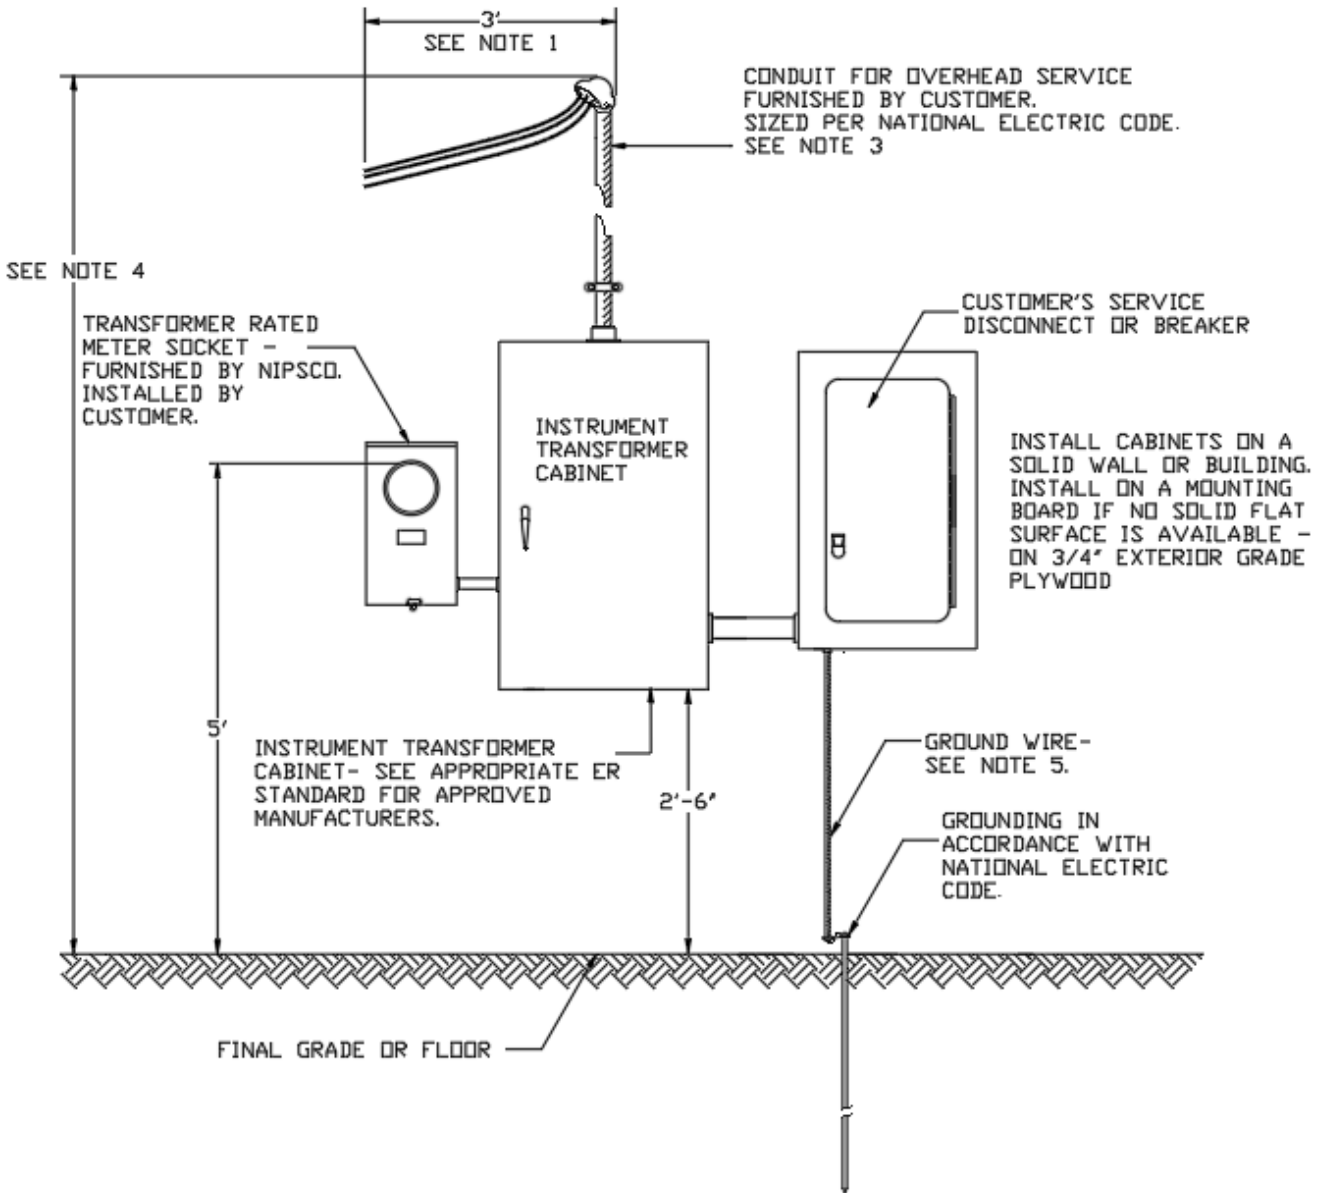
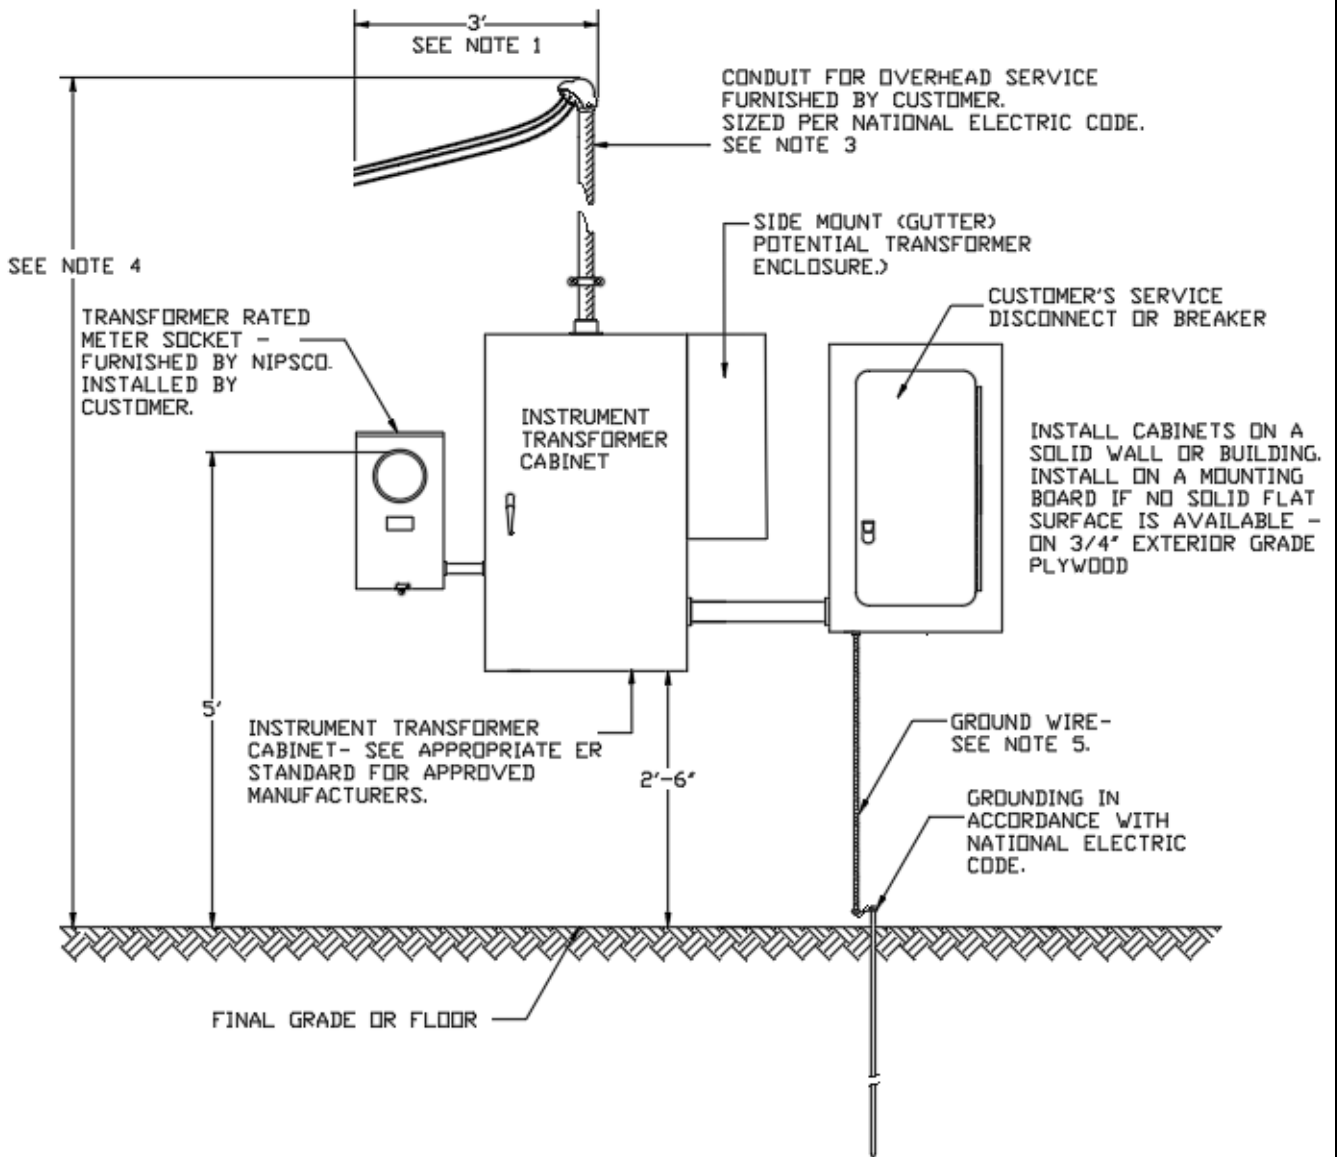

FIGURE 1
FIGURE 2
LATEST REVISION: Revised Figure 1 and added Figure 2. Added Specification on service equipment layout. Updated Notes information on conduit size and bonding.
- 1.8 The service entrance equipment shall be laid out as shown in Figures 1 or 2. If the Customer's service disconnect or breaker is installed inside their building, the Customer can run their load conductors through the lower back or the bottom of the instrument transformer cabinet.